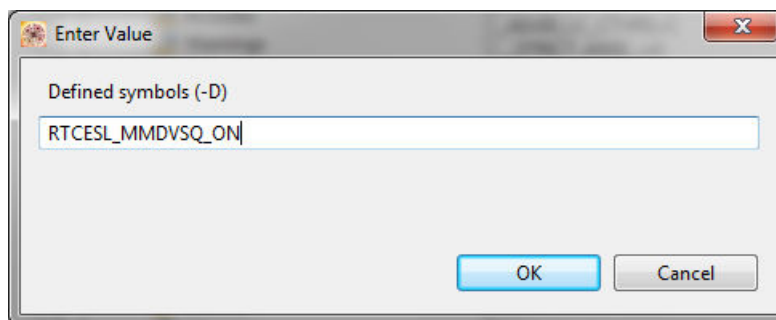

Figure 1-15. Symbol definition
5. In the dialog that appears (see Figure 1-15), type the following: